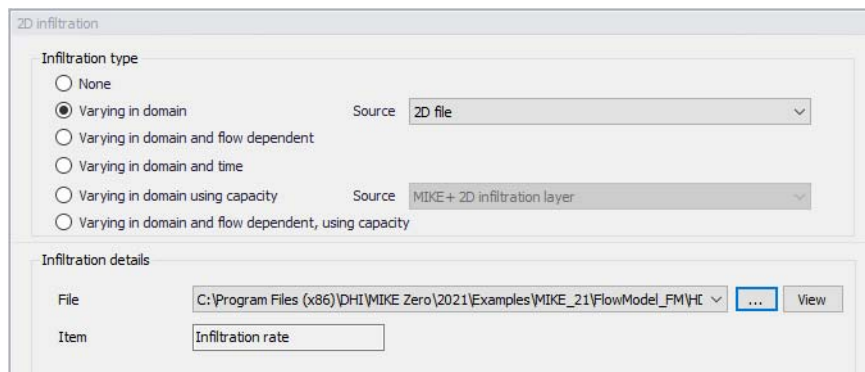

Figure 4.48 Point to a 2D infiltration file under the Infiltration details section on the editor
- File: A drop-down list of valid 2D background layer files on the Map. A file is valid if it is a *.DFS2 or *.DFSU file with Item type = 'Infiltration', 'Seepage', or 'Recharge' (Figure 4.48).